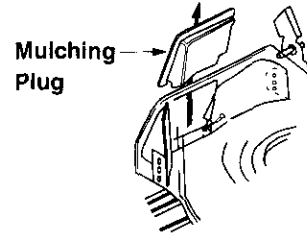

Figure 6
- Lift the chute door on the mower. Remove the mulching plug as shown in Figure 6.